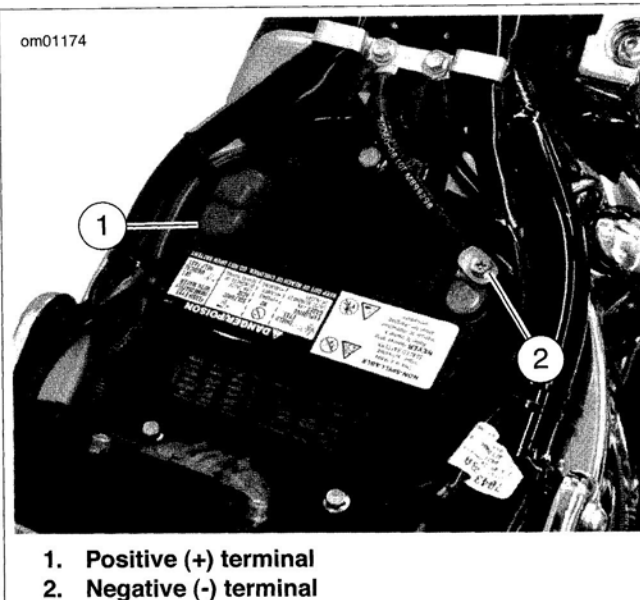

Figure 1-65. Battery: Softail Models
6. See Figure 1-65. Install battery. Tighten positive battery terminal fastener to 60-72 in-lbs (6.8-8.1 Nm).
7. Install negative battery cable (2) at battery frame ground before any accessory ground wires.
8. Install negative battery cable (2) at battery. Tighten negative battery terminal fastener to 60-72 in-lbs (6.8-8.1 Nm).